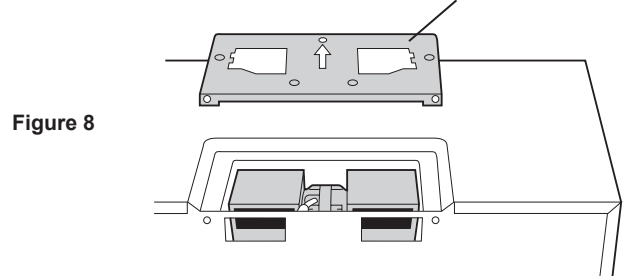

Figure 8
4. Put the wire back into the cavity. The FAN COVER BRACKET and EXHAUST DAMPER ASSEMBLY are mounted to the wall. Follow instructions on WALL TEMPLATE provided. See Figure 8.